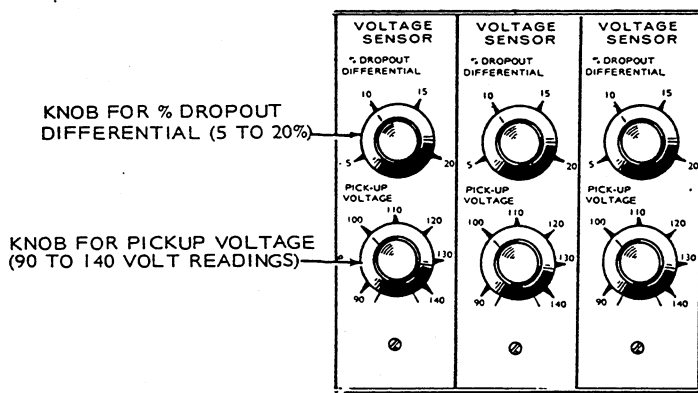

FIGURE 20. VOLTAGE SENSORS
3. Turn the *PICK-UP VOLTAGE* knob (Figure 20) to the desired pick-up voltage, voltage at which load is transferred from the generator set to the normal power source. A setting of 108 volts, for example, gives a pick-up voltage which is 90 percent of the nominal voltage for a 120-volt system.
3. Turn the *PICK-UP VOLTAGE* knob (Figure 20) to the desired pick-up voltage, voltage at which load is transferred from the normal power source to the generator set. A setting of 135 volts, for example, gives a pick-up voltage which is 113 percent of the nominal voltage for a 120-volt system.